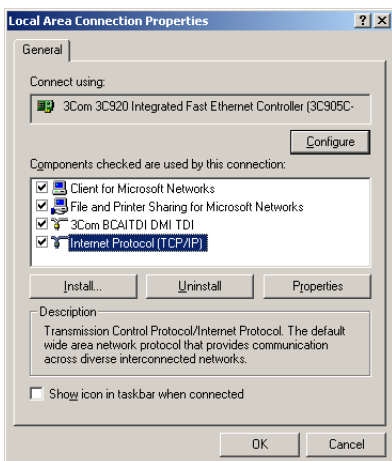

Figure 5-1 Local Area Connection Properties Window
3. Highlight the “Local Area Connection” icon. View the properties by right-clicking and selecting “Properties.” The Local Area Connection Properties Window will open (Figure 5-1).